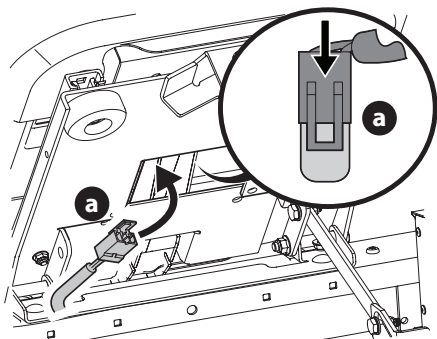

Figure 10
4. Insert the wiring harness (a) into the bottom of the seat (Figure 10).
NOTE: When the wiring harness (a) is connected, be sure to push the excess wire from the wire harness (a) into the seat box hole before continuing (Figure 10).